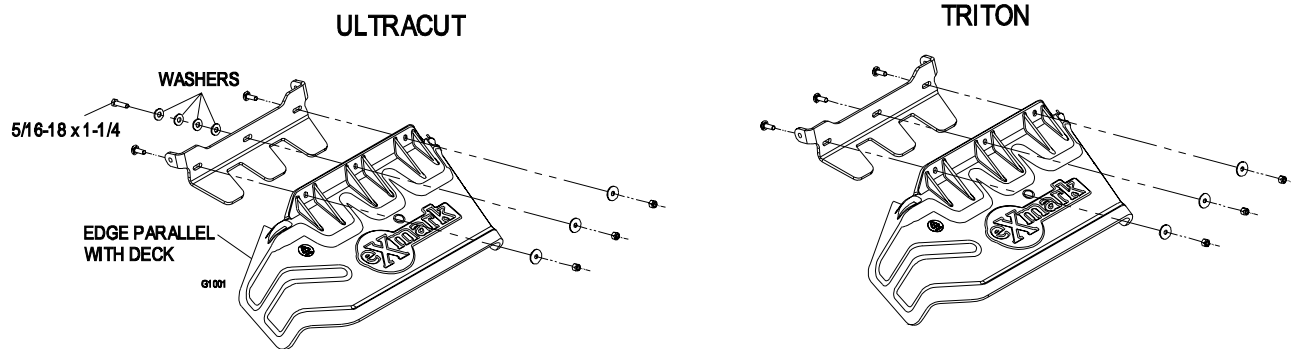

FIGURE 17
d) Using the existing hardware, reinstall the discharge chute bracket into the flexible discharge chute as shown in Figure 17.
For UltraCut Only: Install 5/16-18 x 1-1/4 screw (item 20) and 3 or 4 washers (item 6) in the center hole of the bracket as shown in Figure 17, so that the edge of the chute will be parallel with the deck in the down position.